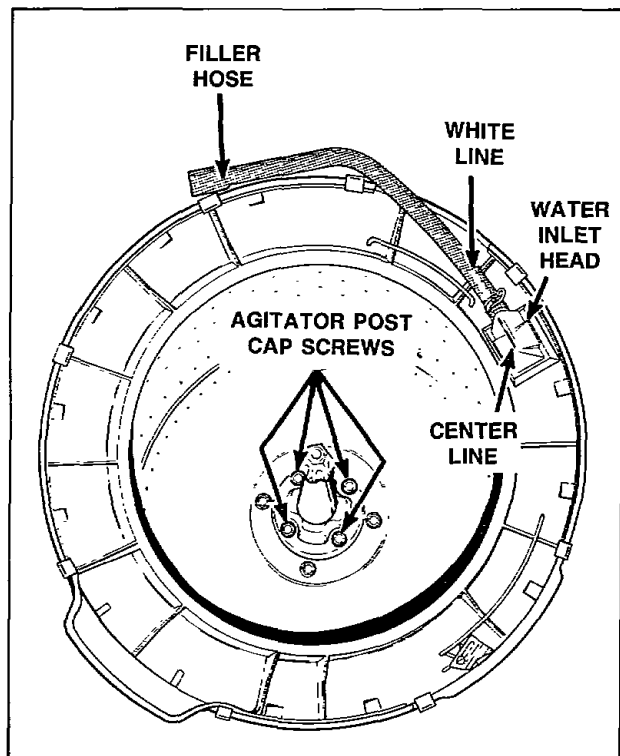

Figure 34
- Disconnect water inlet hose from outer tub cover, *Figure 34*.
NOTE: When installing filler hose, white line on hose must be aligned with center line of water inlet head, *Figure 34*.